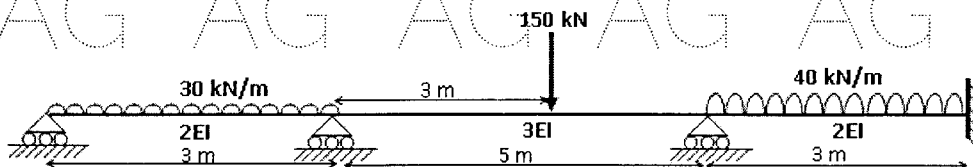

Figure: 10
9. Using moment distribution method, analyse the continuous beam shown in figure 10.